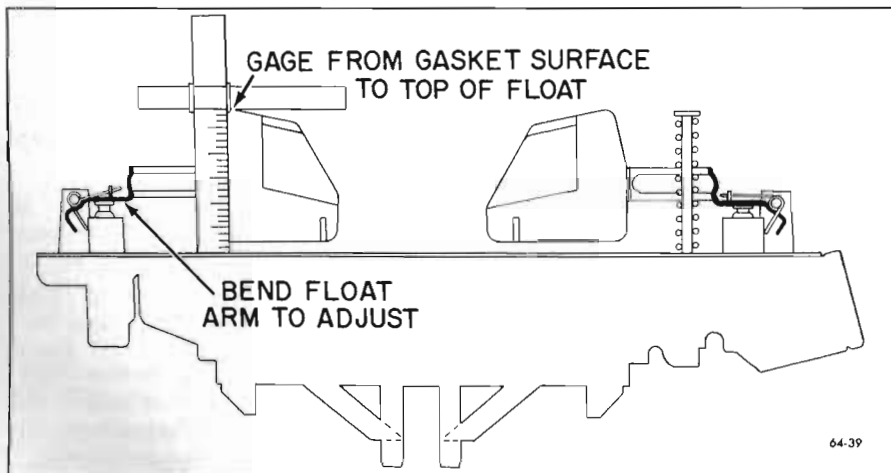

Figure 64-39—Float Adjustment
16. Install primary and secondary float assembly and torsion springs on the air horn, retaining in place with hinge pins. Make sure torsion springs are installed correctly. See Figure 64-39.
17. Adjust Float Level. (Primary and Secondary). With the air horn inverted and air horn gasket in place, measure the distance from the air horn gasket to the top of the float, as shown in Figure 64-39.